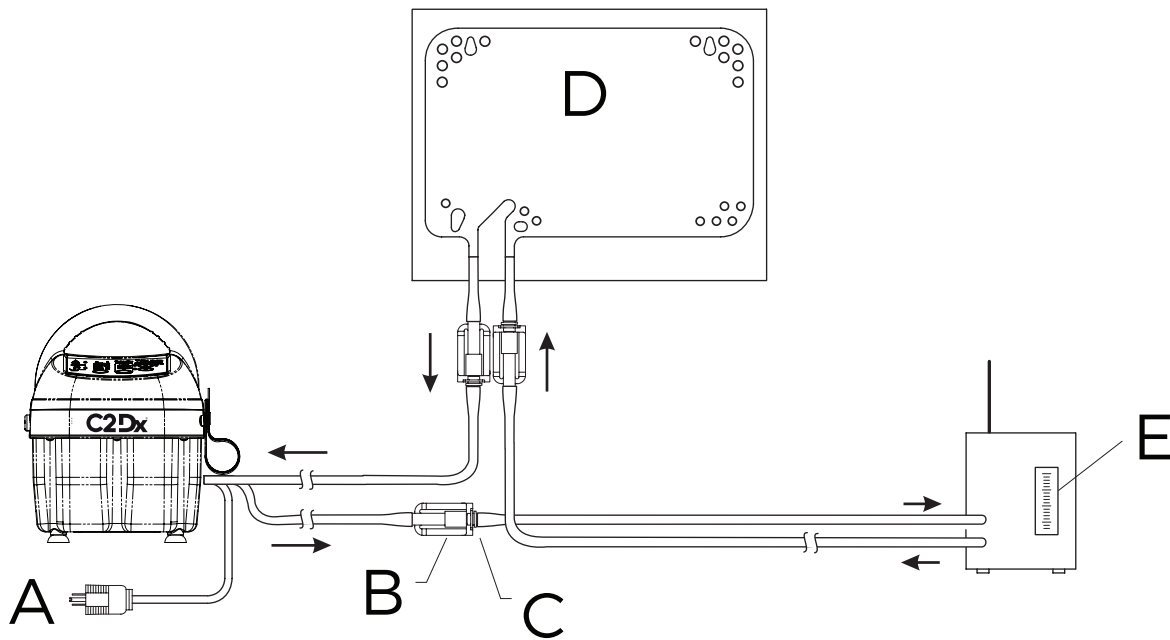

Figure 1: Functional check setup for **Clik-Tite®** connectors
1. Plug into a properly grounded outlet (A) (Figure 1 on page 16).
2. Fitting and tube closest to the front of the **T/Pump® Temperature Therapy Pump** (B).
3. Male **Clik-Tite® connectors** (black O-ring) (C).
4. **Mul-T-Pad® Temperature Therapy Pad**, size 18" or 22": lay the pad flat and at the same level as the pump (D).
5. **TPT9**, 7 gph (26.5 lph) minimum. Read at top of the float (E).